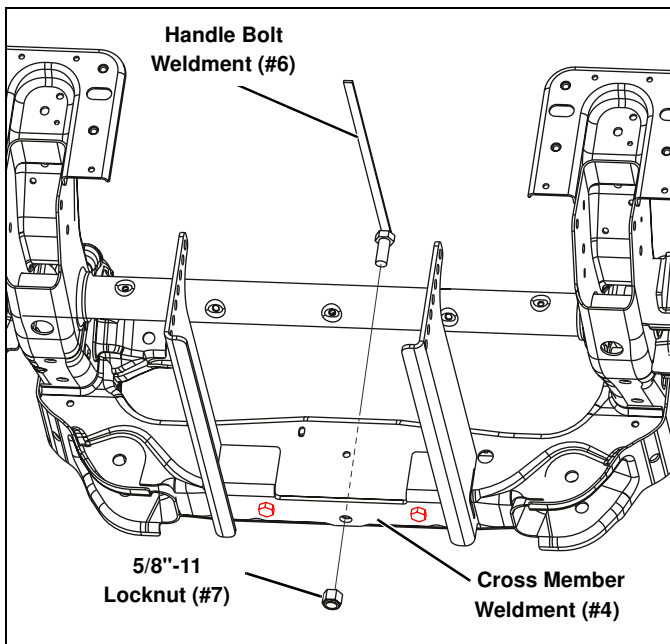

Figure 3
- Enter from the top of the Cross Member and insert a 5/8"-11 x 1-1/2" Handle Bolt Weldment (#6) through the Cross Member, Cross Member Weldment (#4), and back splash guard. Fasten with a 5/8"-11 Locknut (#7). (See Figure 3.)